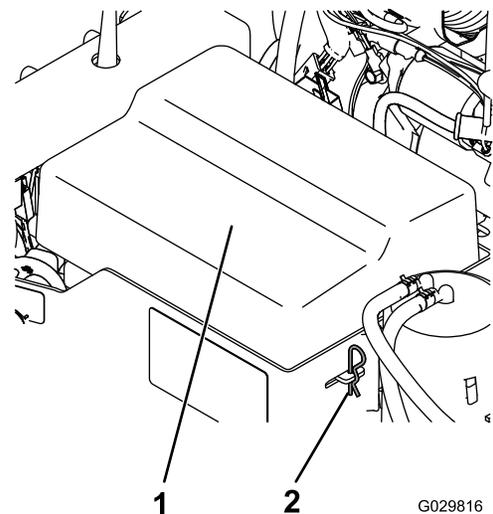

Figure 3
1. Remove the clips securing the battery cover to the battery box (Figure 3).